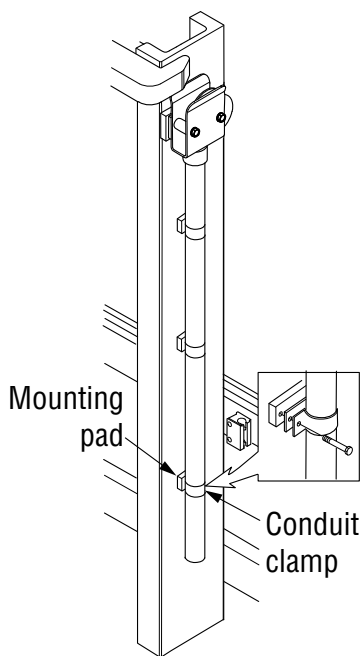

Figure 1-8 Conduit mounting
5. Weld or bolt anchor to carriage bar. For best performance, mount conduit as straight and vertical as possible with minimal bends. Mark location of mounting pads and weld or secure in place. Bolt clamps to pads to secure conduit. See Figure 1-8.